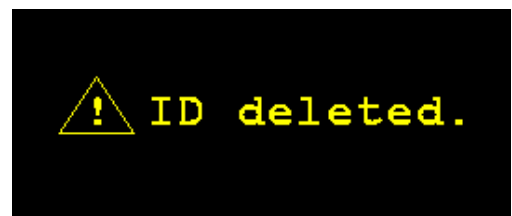

Figure 6: Deleting an ID/Truck.
3. Press the **DELETE** button and the ID/Truck is deleted (Figure 6).